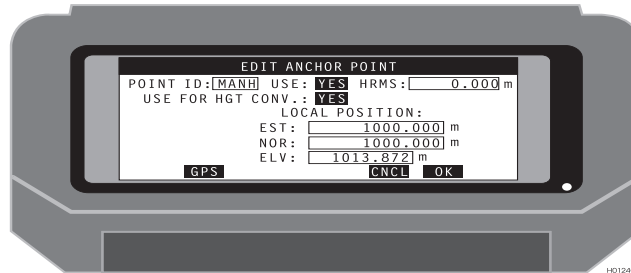

Figure 2.42. Edit Anchor Point (Local) Screen
- To edit a point in the current list of local coordinates, use the Anchor Point screen (local) (Figure 2.42).